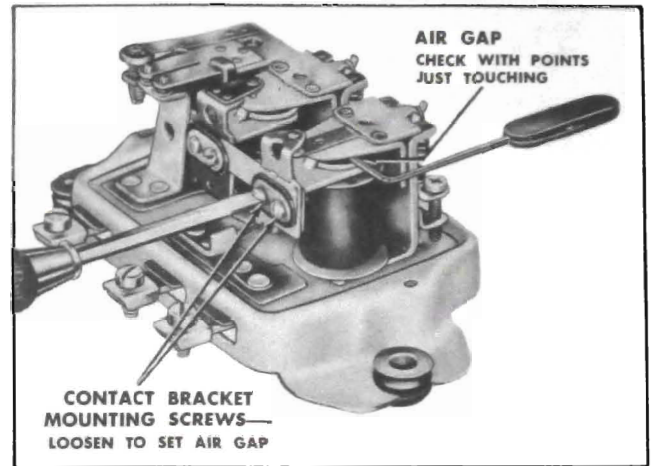

Figure 10-24—Adjustment of Voltage Regulator Air Gap
2. Adjust air gap on each unit, if necessary, by loosening contact support mounting screws and raising or lowering support as required. Be sure points are lined up when tightening screws, then recheck gap after adjustment. See figure 10-24.